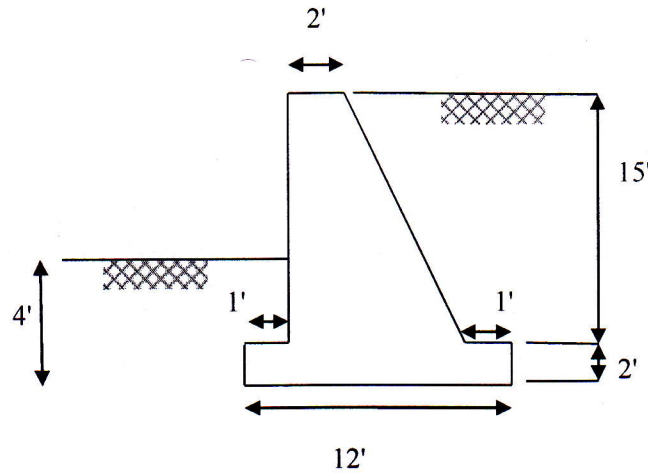

Fig: 4
- [4] Use Virtual Work Method to determine horizontal and vertical deflection at G of the truss shown in Fig. 4. Given, $E = 29000 \text{ ksi}$, $A = 3.25 \text{ in}^2$.
- 7(a) A section of a gravity retaining wall as shown in **Fig 4** was made to support the soil behind the wall and the surcharge on the ground surface. Check the external stability of the section against sliding and overturning. Also check the soil pressure under the base.